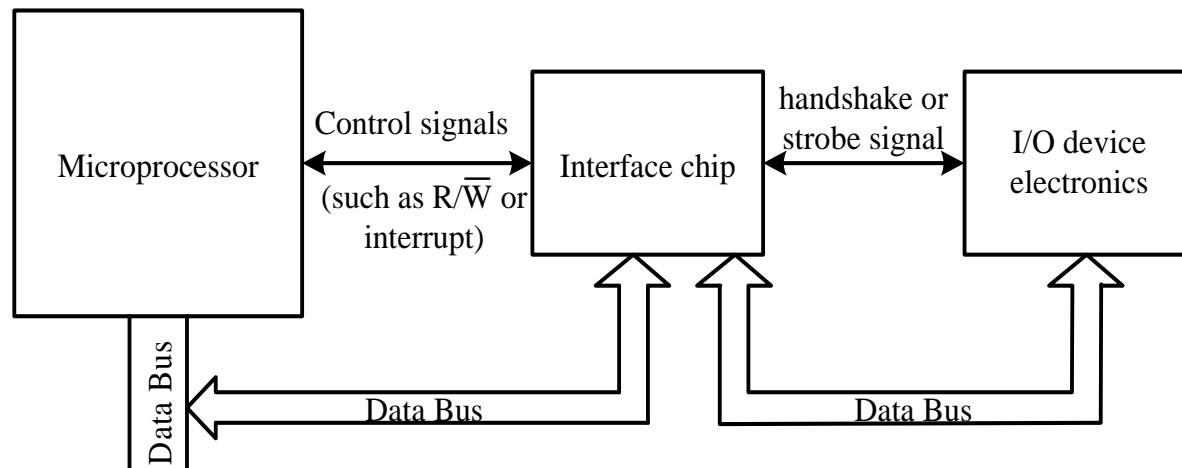

Figure 7.2 The role of an interface chip
- The role of the interface chip is shown in Figure 7.2.